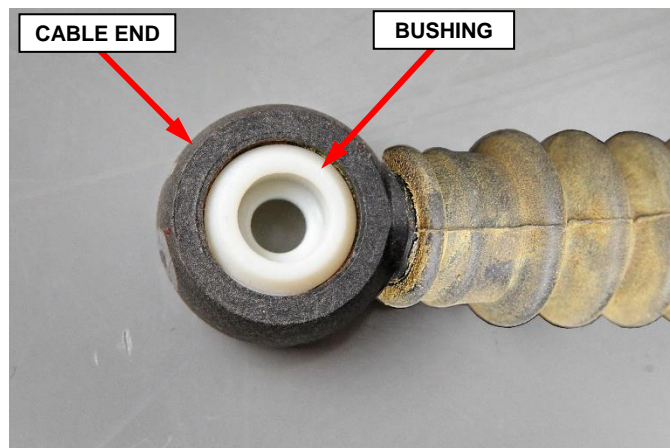

Figure 18 – New Bushing Installed
- Ensure that the new bushing is fully installed into the cable end (Figure 18).